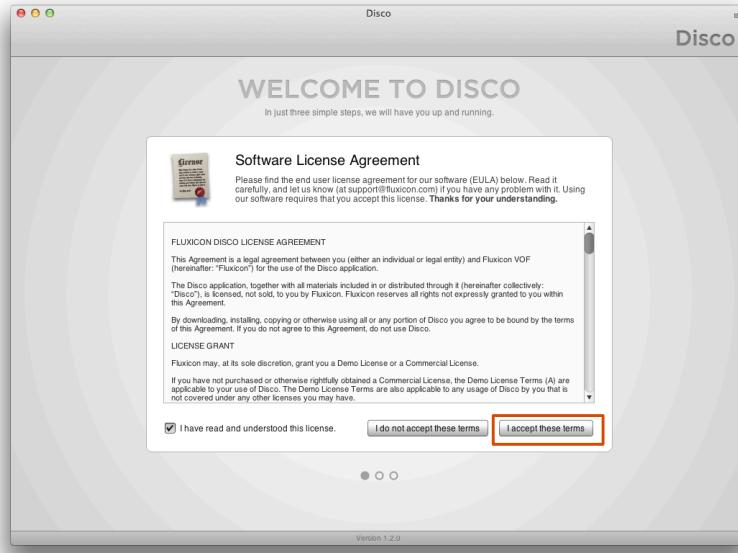

Fig. 2.4. Step 1 out of 3: Accept Disco's software license agreement.
Step 1: Read the software license agreement and tick the checkbox *I have read and understood this license*. Then click the button *I accept these terms* (see Figure 2.4). If you should want to review the software license agreement again at a later point in time, Section 8.3 describes how to find it.